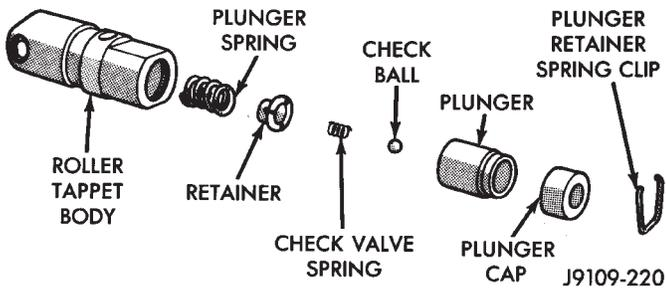

Fig. 27 Hydraulic Roller Tappet Assembly
DISASSEMBLY (FIG. 27)
- (1) Clean all tappet parts in a solvent that will remove all varnish and carbon.
- (2) Replace tappets that are unfit for further service with new assemblies.
- (3) If plunger shows signs of scoring or wear, valve is pitted, or valve seat on end of plunger indicates any condition that would prevent valve from seating, install a new tappet assembly.
- (4) Assemble tappets (Fig. 27).